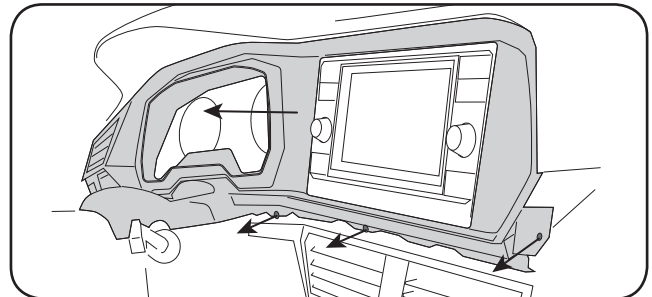

Fig. 1.5
5. Remove three (3) T20 Torx screws securing the bottom of the radio trim bezel. Extend the steering wheel to the furthest position outward and remove the radio trim starting with the top of the steering column then above instrument cluster and maneuvering it around the steering wheel and cluster. (Fig. 1.5)